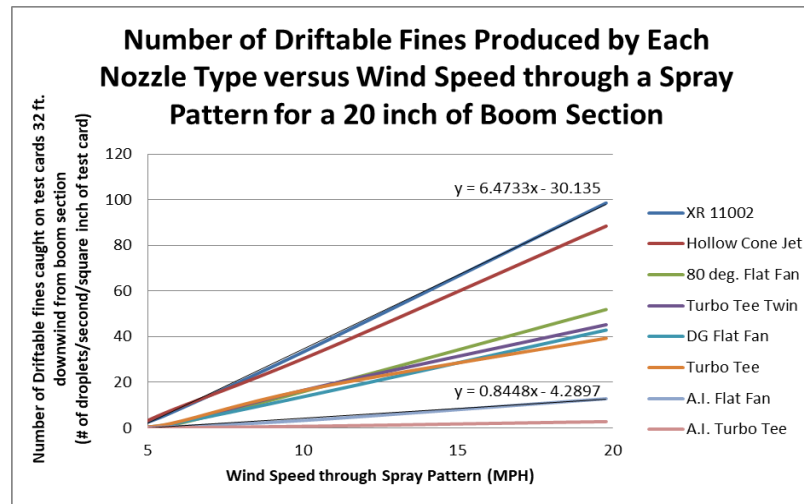

Figure 2: Chart of wind speed on a spray boom versus on the amount of “driftable fines” released into the atmosphere (3 to 5 MPH) for different nozzle types.
- 2) **Travel speed:** Research has shown (Figure 2) that increasing travel and/or wind speeds across a boom can greatly increase the number of driftable fines in a spray system. In XR and Cone Jets, the driftable fines emitted into the open air increased by 6.5 times for each additional 1 mph of extra wind or travel speed across the boom. A.I. type nozzles had a much lower increase in driftable fines of only 0.8. For this reason, lower travel speeds are always recommended over faster speeds for reducing drift.